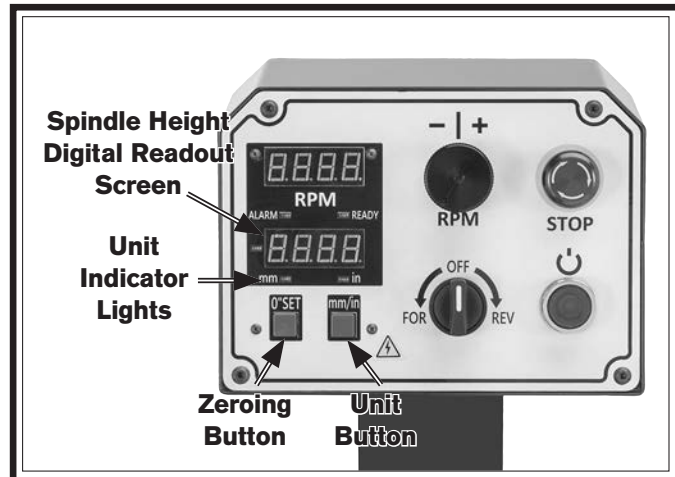

Figure 43. Spindle height digital readout components.
1. Use zeroing (0" Set) button to precisely return spindle elevation height to 0" (see **Figure 43**).
2. Press unit (mm/in.) button to display height in either inches or millimeters (see **Figure 43**). Unit indicator light will illuminate over selected unit.
3. Use spindle height handwheel to change spindle height, observing spindle height digital readout screen until desired height is achieved (see **Figure 43**).